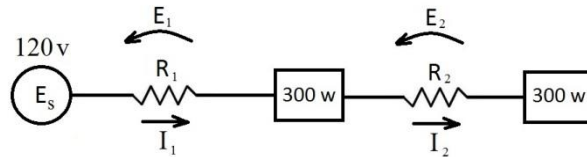

Figure 4: Simplified Parking Lot Lighting Circuit
- Referring to Figure 4 above, write a complete formula for the voltage drop at the load farthest from the panel. Assume all wiring has the same unit resistance R_U (Ω/kFT from the table) but do not assume the circuit lengths are the same (i.e. include the circuit lengths in the equation as CL_1 and CL_2). $R_1 = R_U \times CL_1 / 1000$ and $R_2 = R_U \times CL_2 / 1000$. For this problem, since Circuit Length #1 = Circuit Length #2, R_1 will equal R_2 , but that won't be the case for most problems so keep them separate in the formula.